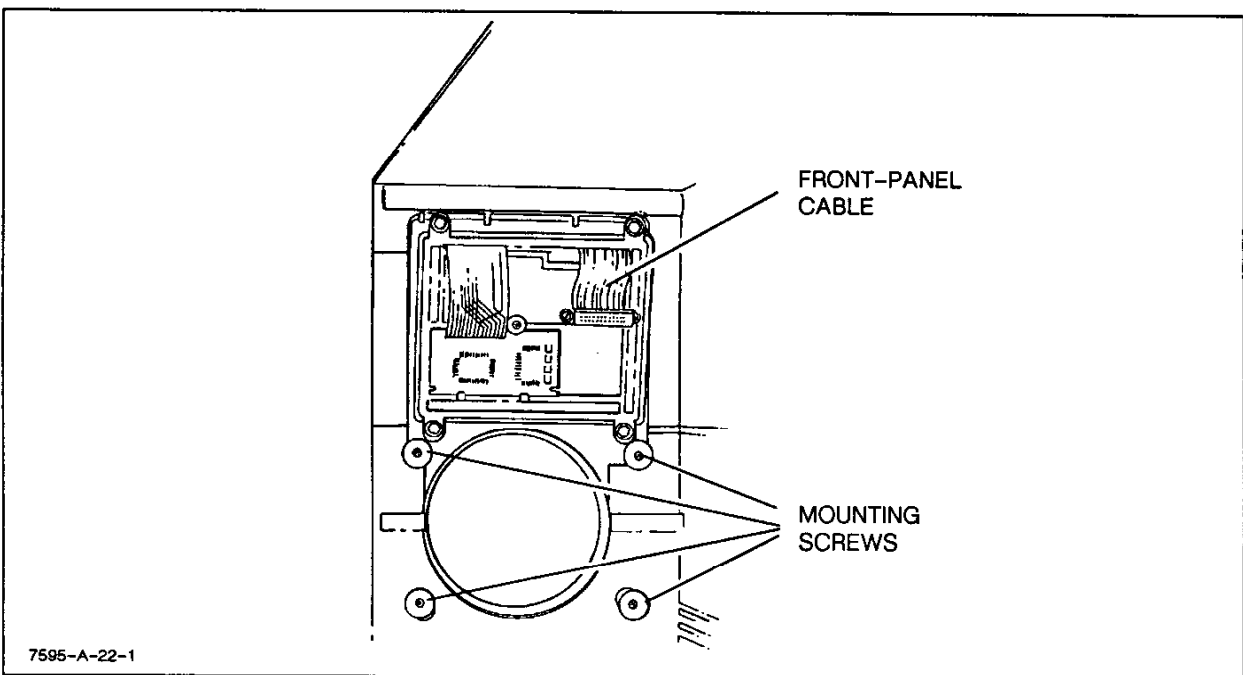

Figure 6-7. Front Panel Removal
- a. Turn the plotter line switch to OFF (O) and disconnect the ac power cord.
- c. Disconnect the Front Panel cable. See Figure 6-7.